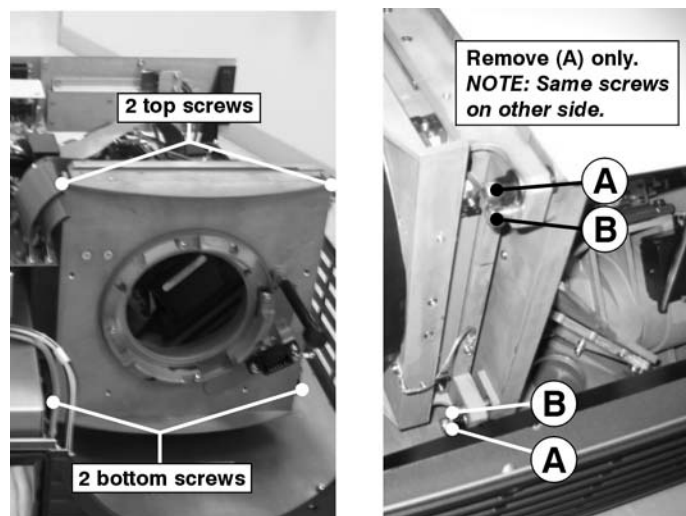

Figure 54. Remove the Lens Mount
6. Remove the four (4) screws securing the lens mount to the light engine chassis.
NOTES: 1) There are two (2) sets of top screws and two (2) sets of bottom screws. It is important to only remove the outside four (4) screws (shown as "A" in Figure 54.). Three (3) of these screws are paired with springs at the back. Grab hold of the loose spring before you remove the screw so it doesn't fall into the projector. 2) The four (4) inner set of screws are dedicated for bore-sight alignment adjustments.